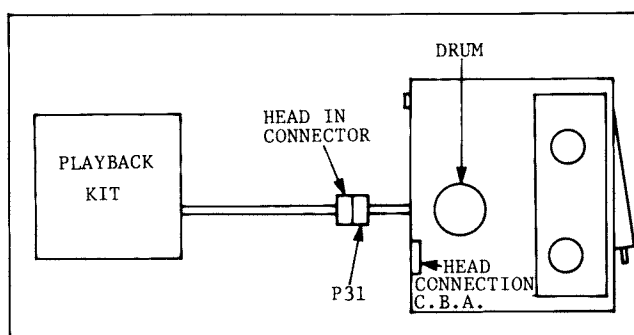

Fig. 10. ADJUSTMENT CONDITION
7. Connect the HEAD INPUT of the PLAYBACK KIT to the HEAD CONNECTOR (P31) on the unit, as shown in Fig. 10. Connect scope to Y RF OUT of the PLAYBACK KIT.